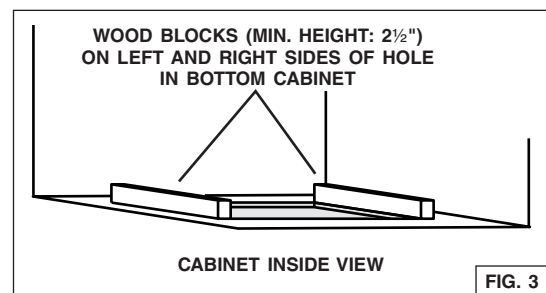

FIG. 3
2. Secure 2 wood blocks having 2 1/2" minimum height x 10 1/4" long (not included) inside the cabinet, on left and right sides of the hole, flush to the edges (Fig. 3).